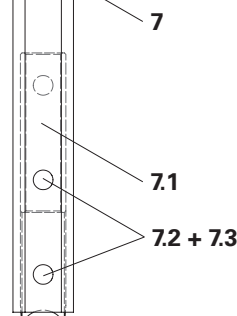

Fig. D4.04
2. Push the pressure block (**7.1**) into the square tube profile. (Fig. D4.04)
6. Insert both filler pins  $\varnothing 26 \times 120$  (**7.3**) and secure with cotter pins 4/1 (**7.2**). (Fig. D4.04 – D4.06)